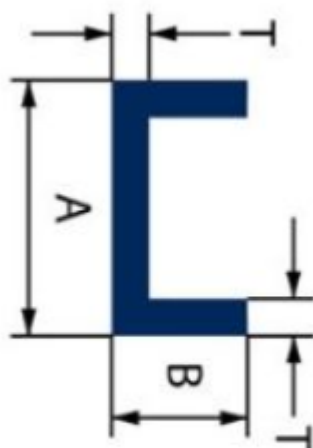

Figure 3 - Aluminum Channel Section Details
For aluminum channel section details, please refer to **Figure 3**.
- Channel size **C20x20x1.6, see Figure 3**